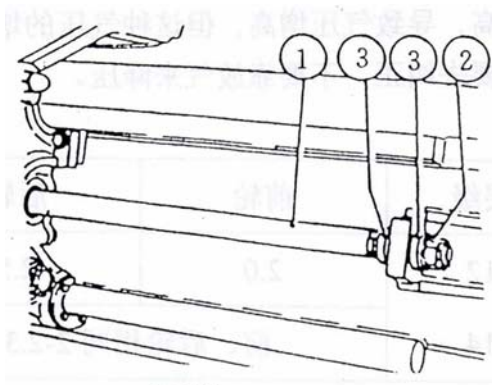

Fig. 57
8.9.3 Fasten the piston rod of the blade shift cylinder (Fig.57)
In our factory, after the piston rod locks the grooved nut (Fig.57/2), two taper washers (Fig.57/3) can be turned manually.
Note: When repairing or changing the cylinder, fasten the piston rod in the same way (Fig.57/1).